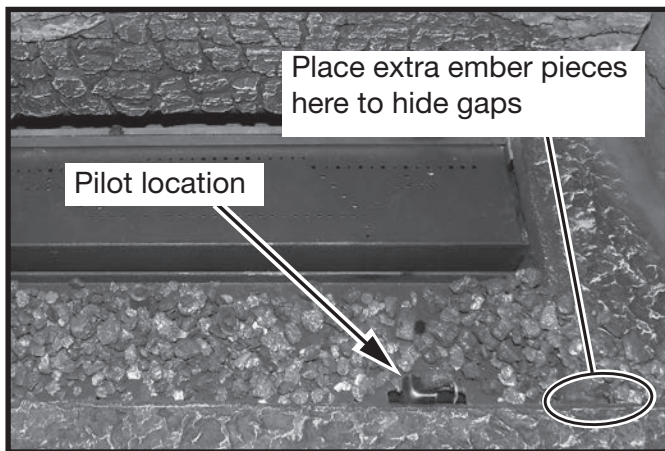
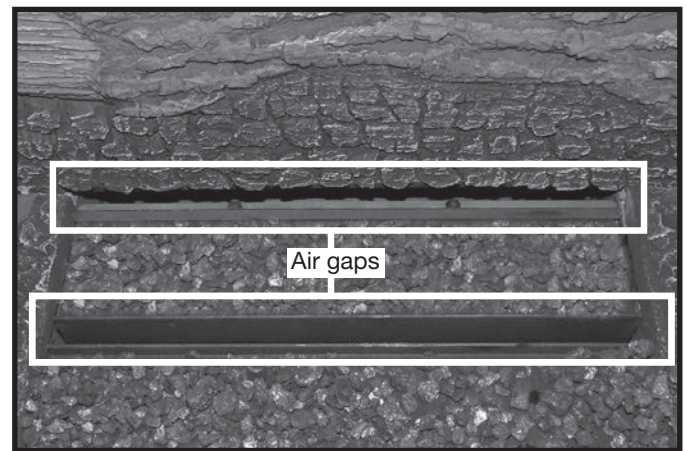

Figure 75: Front tray filled lightly with ember pieces and pilot location.
Figure 76: Air gaps.
9. Distribute a thin layer of ember pieces (Figure 61) (1/4" to 1/2") onto the front burner tray (Figure 75). Place extra ember pieces on the thin, but noticeable gaps between the front base piece and the two side base pieces. Keep the ember pieces from interfering with the pilot assembly. Place a layer of ember pieces (1/4" to 1/2") onto the rear burner tray to fill it up until it is level with the side and end walls. Keep the ember pieces from falling into the air gaps between the front and rear burners and the gap between the rear burner and the air deflector which supports the first log (Figure 76).